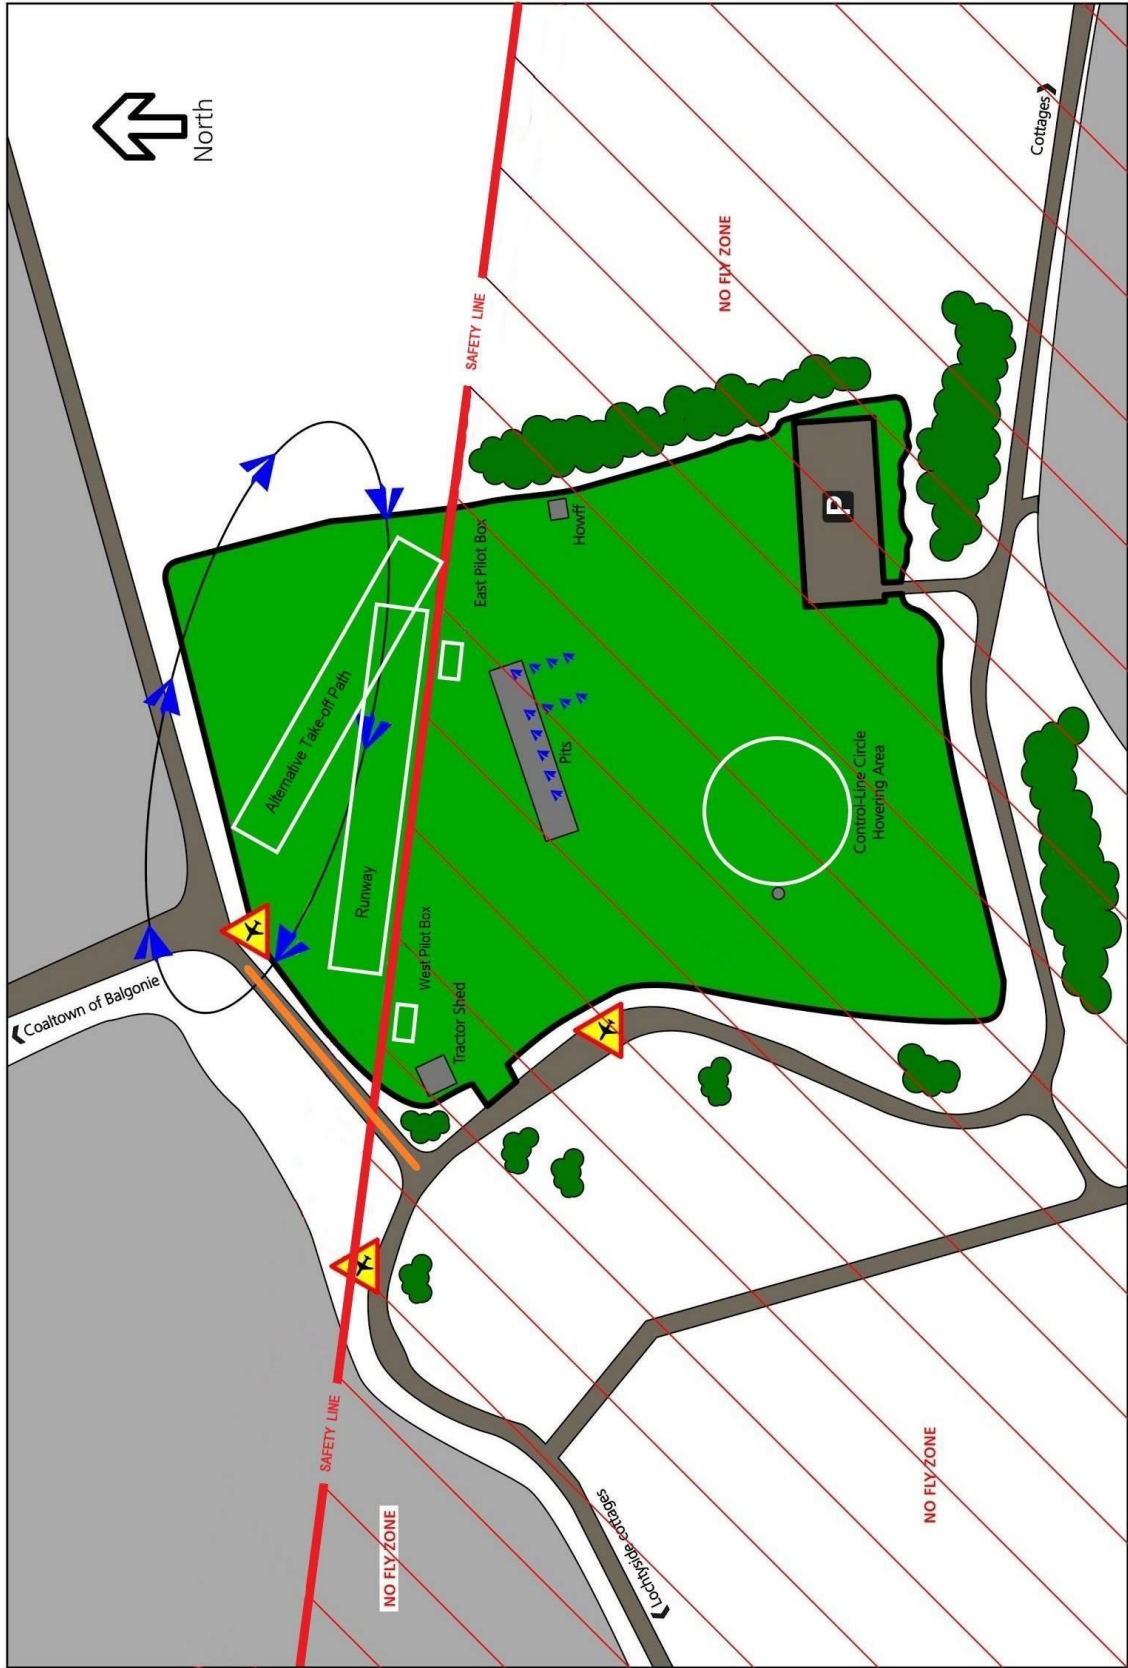
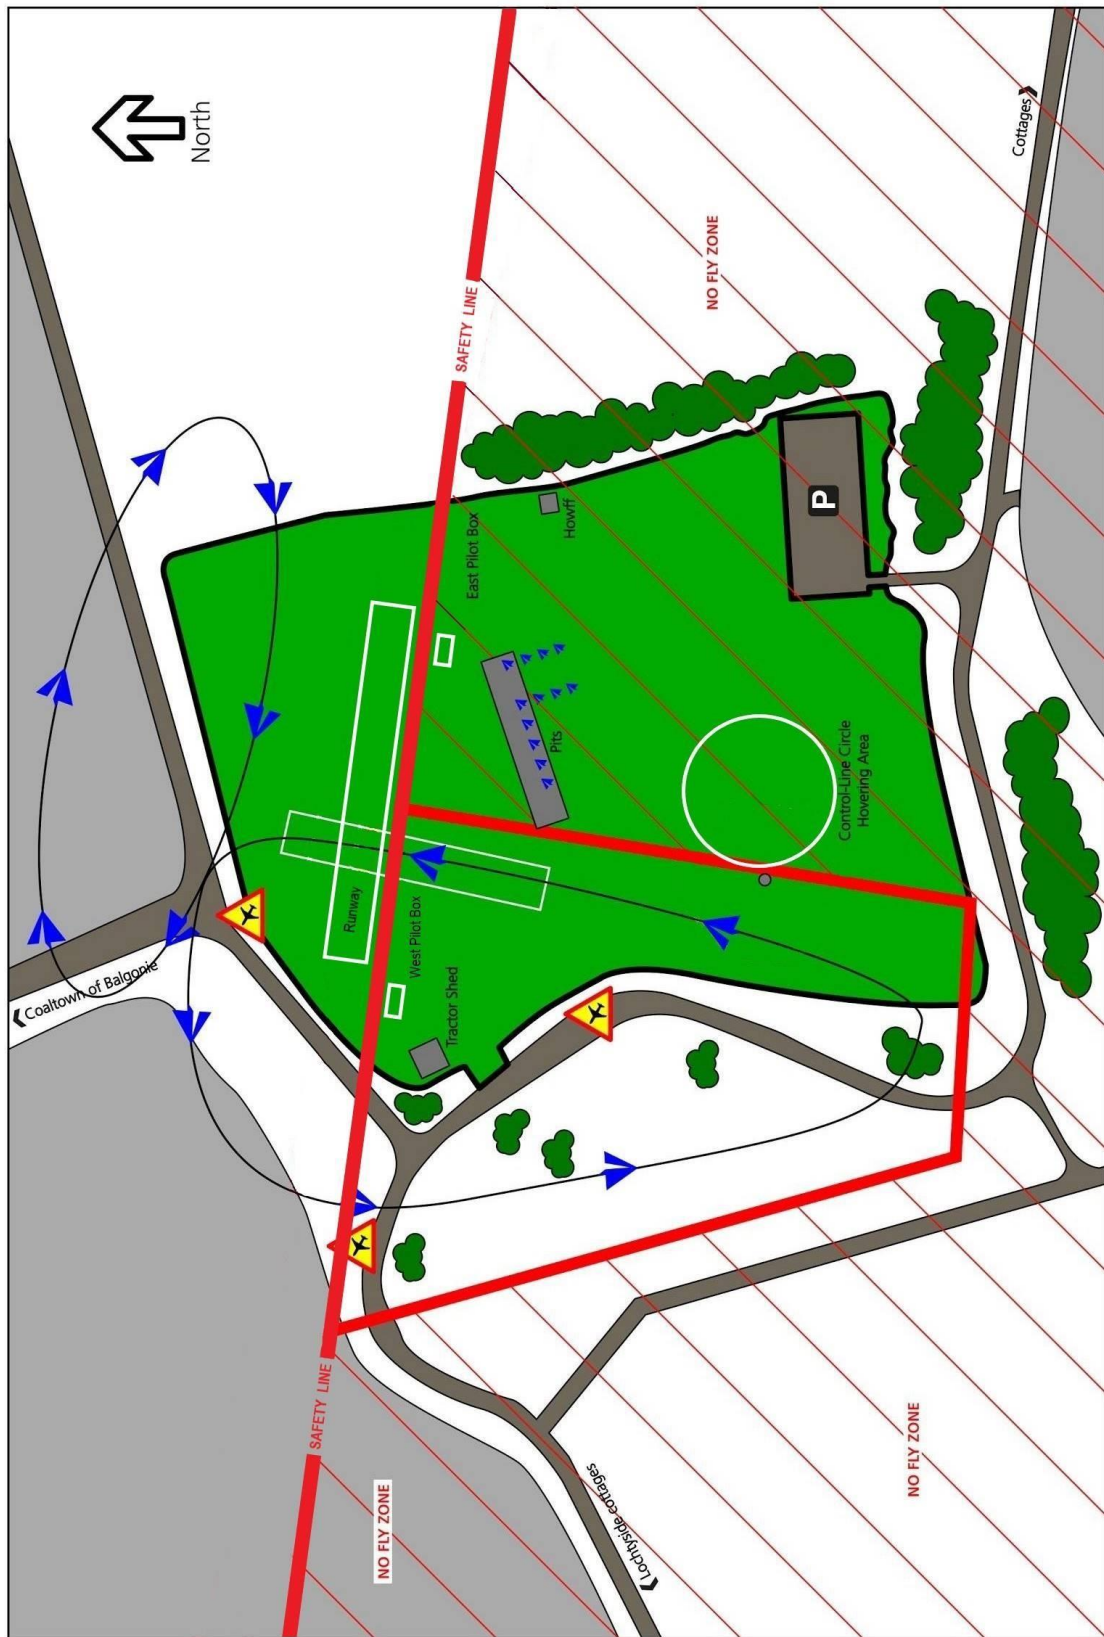

Fig 1 - East or West Active Runway
Fig 2 - North-South Active Runway - Take-off and Landing only - East pilot box
- 2.4 All members should assume, from a personal safety perspective, that ~~both~~ the east-west ~~and northsouth~~ runways (see figs 1 ~~and 2~~) ~~are~~ is active at all times and extend the appropriate care, attention and awareness at all times.
- 3.3 Models over 7.5kg are restricted to a maximum altitude of 400 feet (122 metres). [Unless the club has a valid SAA/BMFA permit for flying greater than 7.5kg models over 400ft \( Note multirotors are excluded from these permits by SAA and BMFA article 16 authorisations](#) Whilst flying models over 7.5kg, **Warning Low Flying Model Aircraft** signs must be displayed. See Figs 1 ~~and 2~~ for sign placement.
- 5.1 A model pits area will be established no less than ten metres from the car park and the pits will be confined to the areas marked on the map within Figs 1 ~~or 2~~.
- 6.1 **Glenrothes Aeromodelling Club** operate ~~one two runways~~ two runways, east – west (primary) - see Fig 1 - ~~and east- northwest, this to be used if warning system not working, see Fig 1~~ ~~and north-south (secondary) – see Fig 2~~.
- 6.2 The safety line (see Figs 1 ~~and 2~~) is a line extended from the grey box on the railway line to the east of the flying field [Note:- loss of signal could occur if the model goes behind the tree line as 2.4Gh is line of sight and does not effectively go through obstacles this must be avoid on the west east landing approach and through the trees to the north west of the tractor shed](#).
- 6.3 Take-off, hand launching, climb-out, approach, landing and low-pass manoeuvres must all be conducted at least five metres north of the safety line when either east-west or west-east runways are in use. The safety line is denoted by the marked grass at the edge of the runways. (Figs 1 and 2). For additional requirements for climb-out from and approach to the West end of the east-west runway see Para 2.7.
- 6.11 ~~The north South runway is no longer valid and is not to be used. When the north-south runway is in use, it is to be used for take-off and landings only. Take-offs are restricted to north only whilst landings can be from the north or south. Take-off, hand-launch and all flying, must be conducted at least five metres to the north of the safety line. All approaches and landings from the south must stay inside the extended pocket as marked in Fig 2 and must not stray into the hatched no-fly zone.~~
- 6.12 ~~When the west pilot box is active, the north-south runway will be taken out of use.~~ The safety line and the no-fly zone in fig 1 only will apply as there is no longer a north south runway.
- 6.13 When the east-west runway is in use the central pilots box shall be used unless of the circumstances outlined in- 6.5 and the east pilot box is active, when take off is to the west pilots will be unable to see persons using the section of road marked in orange (see Fig 1). Pilots must not attempt take-off to the west without being certain that that section of the road is clear by
- Should it not be possible to confirm the section of road is clear, an alternative take-off path to the north-west (see Fig 1) may be used.
- 6.14 ~~When the control line circle/hovering area is in use, t~~The no-fly zones in fig 1 will apply at all times.